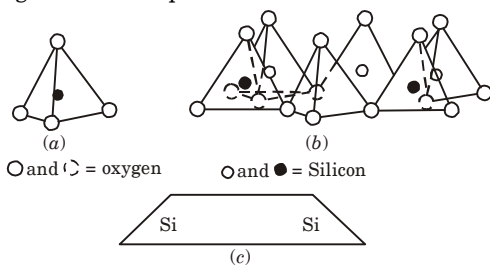

Fig. 1.20.1. (a) Single silica tetrahedron. (b) Isometric view of the tetrahedral or silica sheet. (c) Symbolic representation of the silica sheet.
2. Fig. 1.20.1(a) shows a single silica tetrahedron.
3. Fig. 1.20.1(b) illustrates how the oxygen atoms at the base of each tetrahedron combine to form a sheet structure with all the tips of the bases lying in a common plane.
6. A symbolic representation of silica sheet is shown in Fig. 1.20.1(c).
2. An octahedral unit has six hydroxyl ions at the tips of an octahedron as shown in Fig. 1.20.1(a) and Fig. 1.20.1(b).